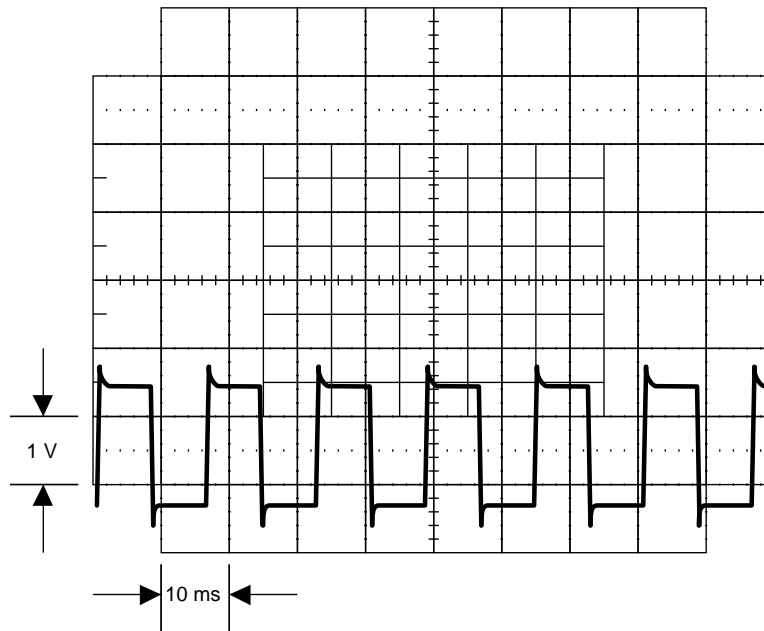

Figure 5-1. Waveform at TP10
2. Set the 5700A to 1V at 1.2 MHz, operate. Connect an oscilloscope to TP10, set it to 500 mV/div at 500 ns/div, and verify it displays a 1.2 MHz signal similar to that shown in Figure 5-1. Next, connect a frequency counter to TP10. Set the 5700A to 2 MHz, 5 MHz, 10 MHz, 20 MHz, and 30 MHz, verify that each frequency is within 0.01% of the nominal. If a failure is detected, proceed with step 3 otherwise skip to step 11.